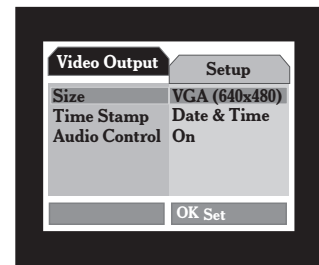

Fig. 8
- In video mode the first menu (Video Output) is as illustrated in Figure 8; from this menu the size in pixels of the video output can be selected (640x480 pixels or up-scaled 1280x720 pixels); the desired time stamp can be selected (as described above) and the audio recording can be switched on or off.